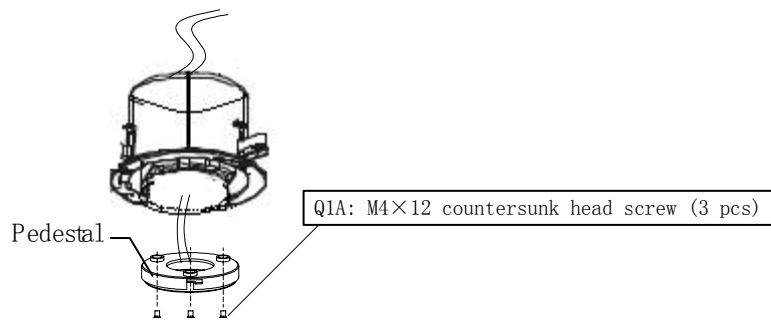

Figure 34
- 4) Fixup the “installation pedestal” with the embedded mount (reference Figure 34)